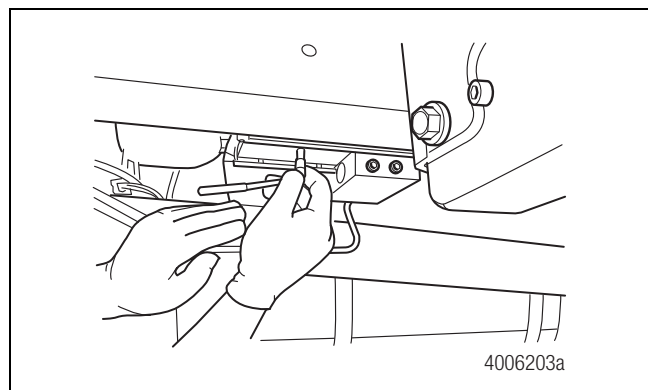

Figure 4.32
10. Use a 6 mm hex-head socket wrench to remove the pump retaining plug from the HCU cavity. To minimize fluid spill, keep the replacement pump within reach and prepared for installation. Figure 4.32.